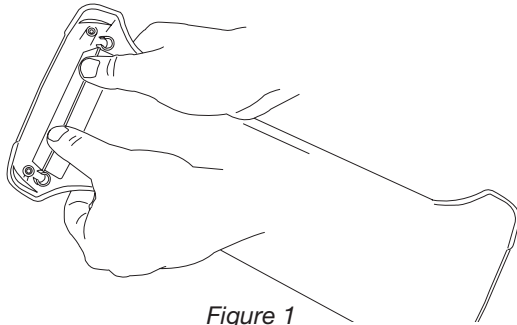

Figure 1
3. Remove four (4) recessed Phillips screws from feet and two (2) recessed Phillips screws from base cover.
- Using thumbs, push down on control PCB board (located in cradle arm) until clamps release. (See Figure 1).
4. Using thumbs, push down on control PCB board (located in cradle arm) until clamps release. (See Figure 1)